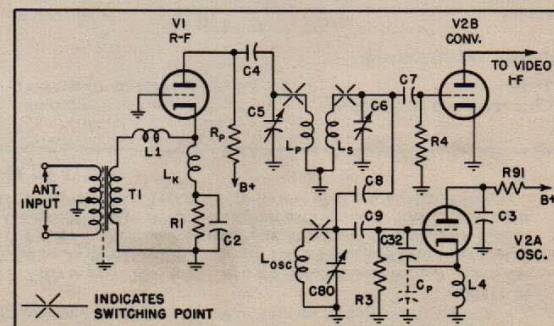

Fig. 2. R-F Amplifier, Converter and Oscillator
1. R-F AMPLIFIER, CONVERTER, AND OSCILLATOR (SEE FIGURE 2).
The r-f amplifier makes use of a Type 6AU6 pentode tube connected as a grounded grid triode amplifier. The antenna is connected into the cathode circuit of the tube through a transformer, T1, so as to provide a substantially constant input impedance of 300 ohms to the antenna and transmission line at all frequencies. The transformer, T1, is balanced to ground in the primary winding which provides cancellation of noise pickup on the transmission line. An electrostatic shield is incorporated between the primary and secondary winding of T1 to prevent noise from being transferred from primary to secondary by capacity effect. R1 is the normal bias resistor for V1. A choke (LK in Figure 2) is placed in series with this cathode resistor to prevent the input impedance from being lowered by shunting effect of the cathode bias resistor and the by-pass capacitor, R1 and C2. LK also neutralizes the total cathode capacity, thus preventing it from affecting the input impedance. The choke value is changed when switching from the lower five to the upper seven channels. L1 is a series compensating choke which prevents a loss in gain on the high frequency channels.